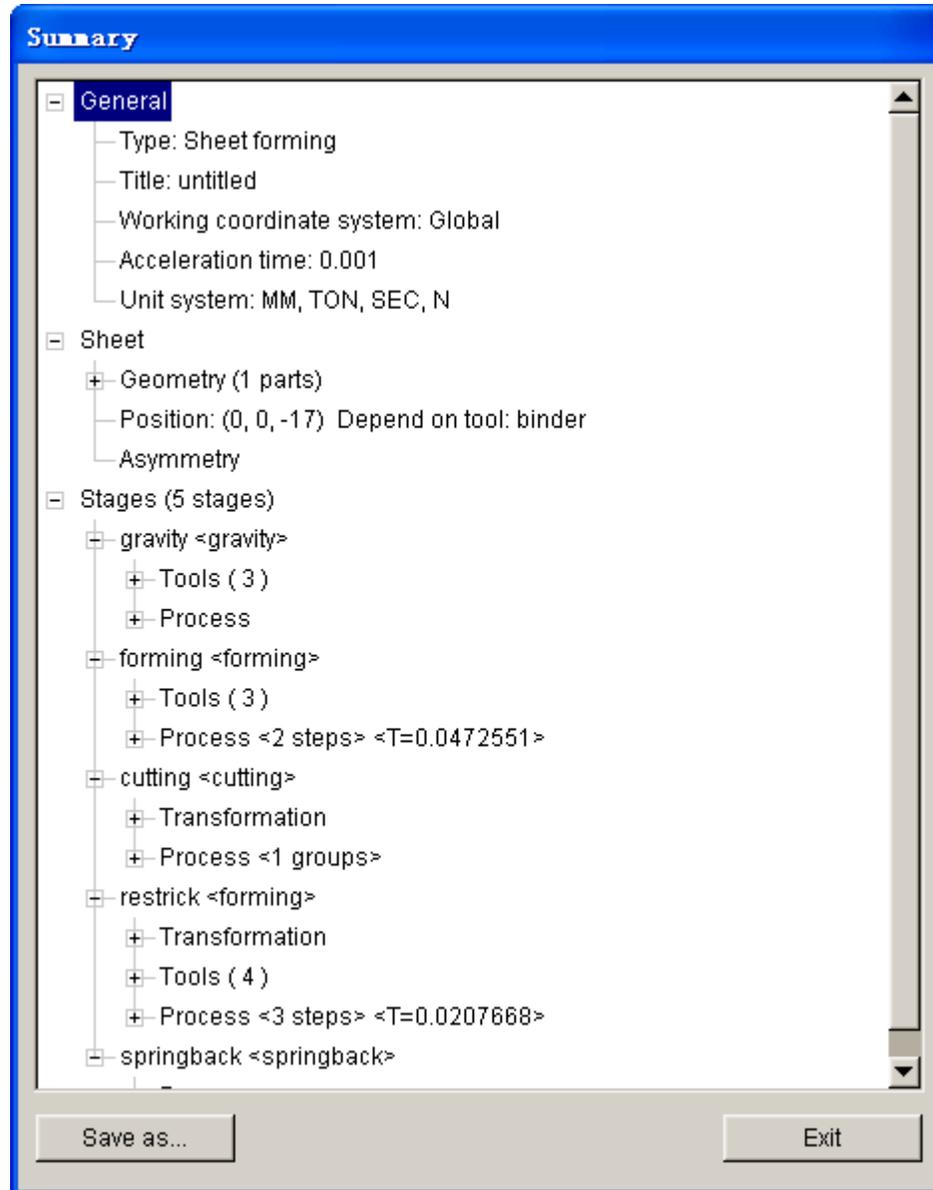

Figure 8.2.8 Summary output
**SUMMARY** — This function lists information of the current setup, which includes stamping direction, tool, blank, numbers of process, process name and contact type, etc. A typical Summary output is illustrated in Figure 8.2.8.